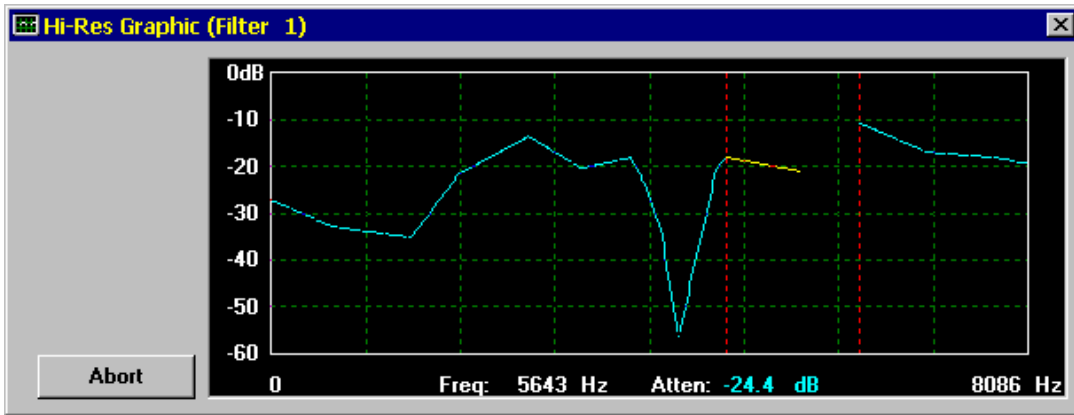

Figure 4-52 Hi-Res Edit In Progress
8. Now, draw in the new portion of the filter curve using mouse clicks as in Step 4, above, roughly as shown below (Figure 4-52).